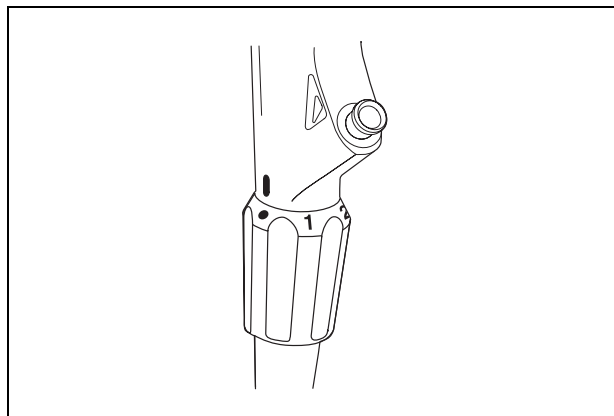

Figure 3.4
1. Confirm that the marks (“●”, “1”, “2”, “3”) on the flexibility adjustment ring and the “I” mark at the bottom of the grip section are clearly visible (see Figure 3.4).